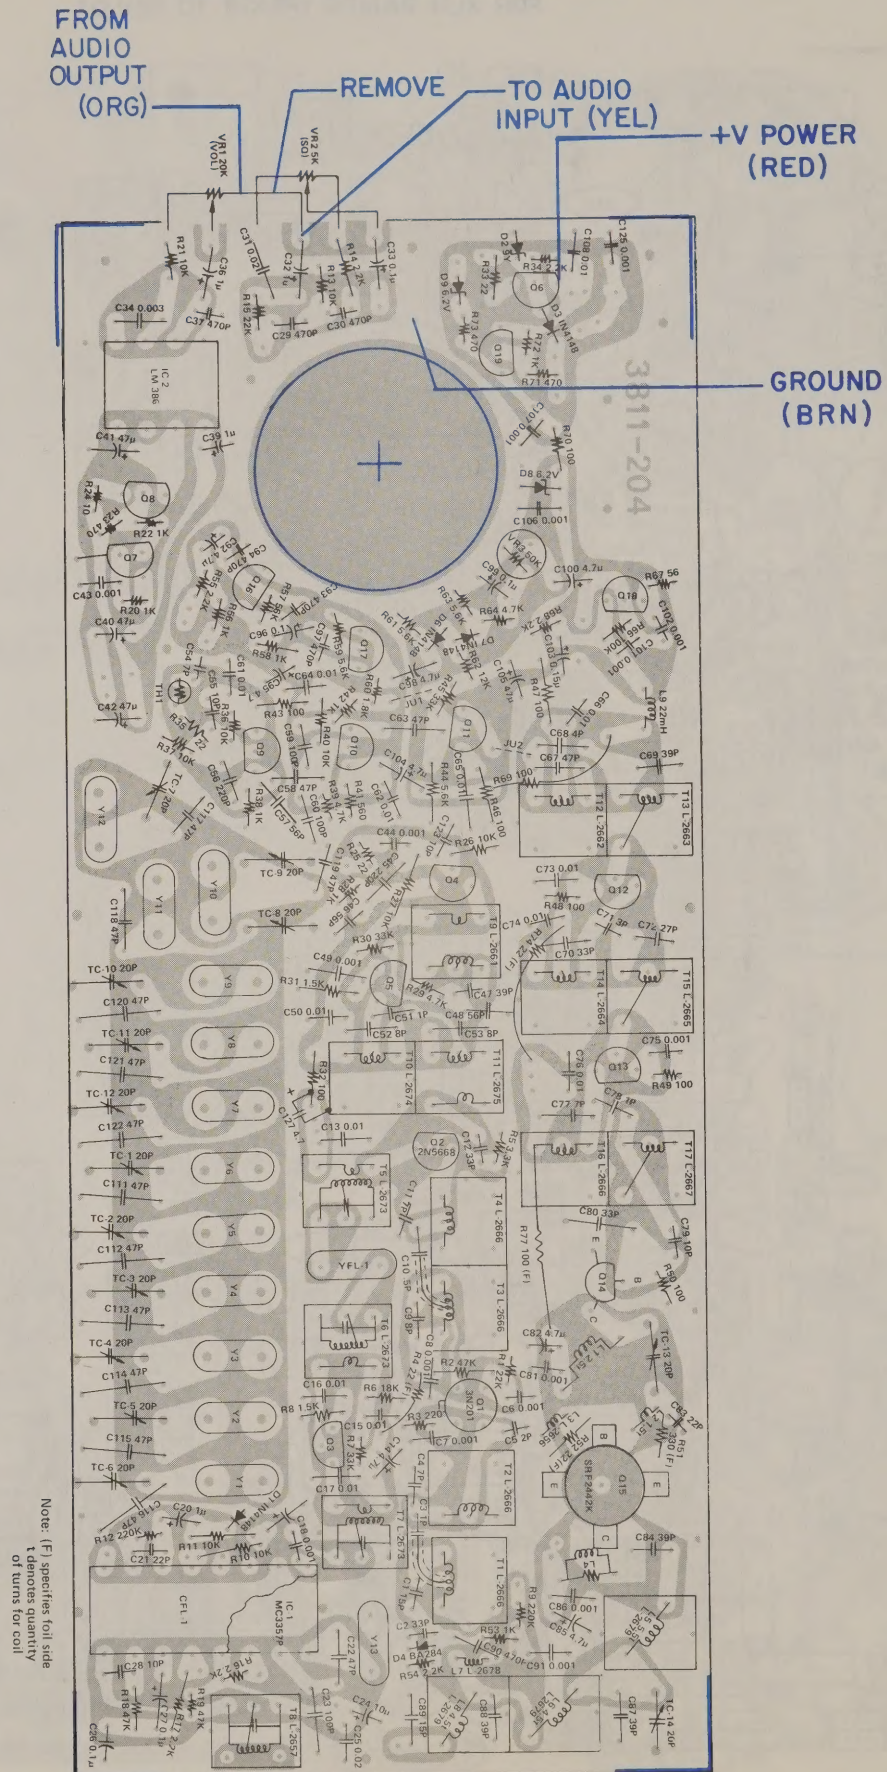

FIGURE 4
6	D. Figure 4 - Pick-up Point K3
B. Micro Com P Series Radios (Refer to Figures 4 and 5)